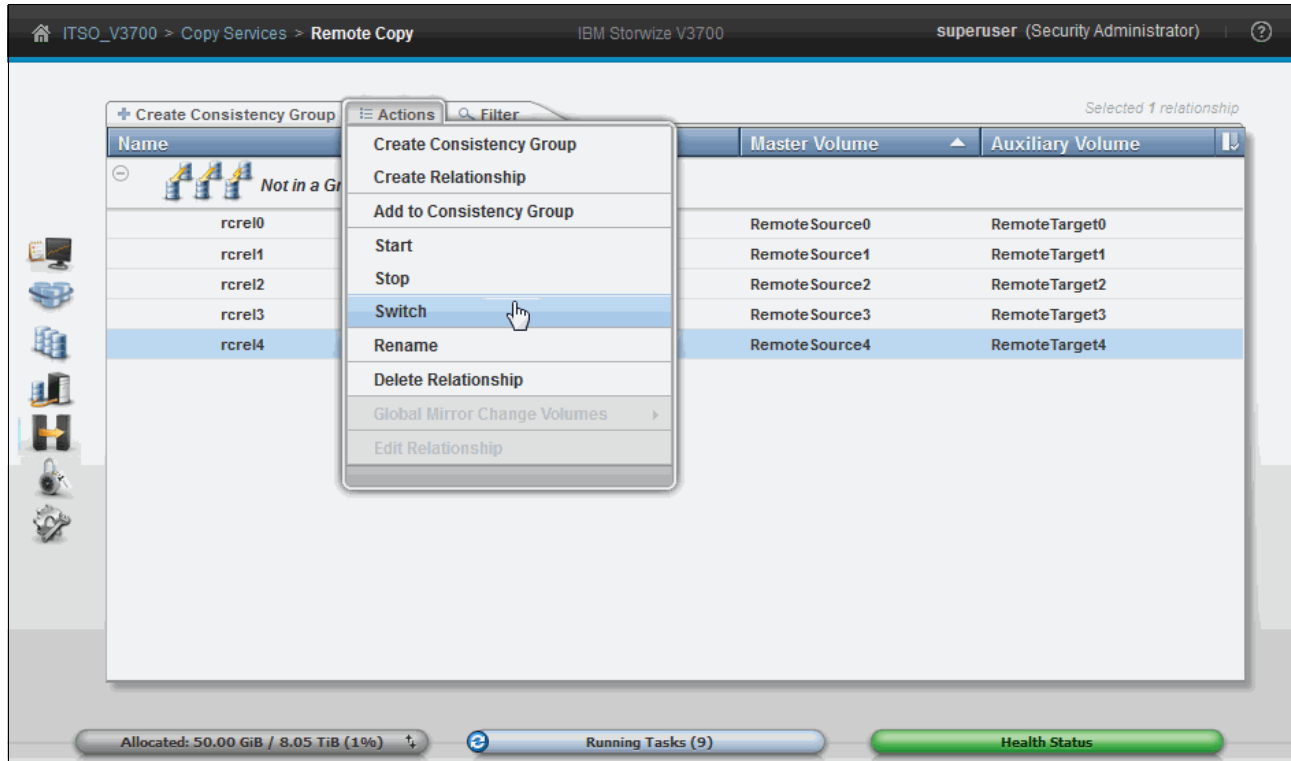

Figure 10-114 Switch Remote Copy relationship
1. Select the relationship and click **Switch** from the **Actions** menu, as shown in Figure 10-114.